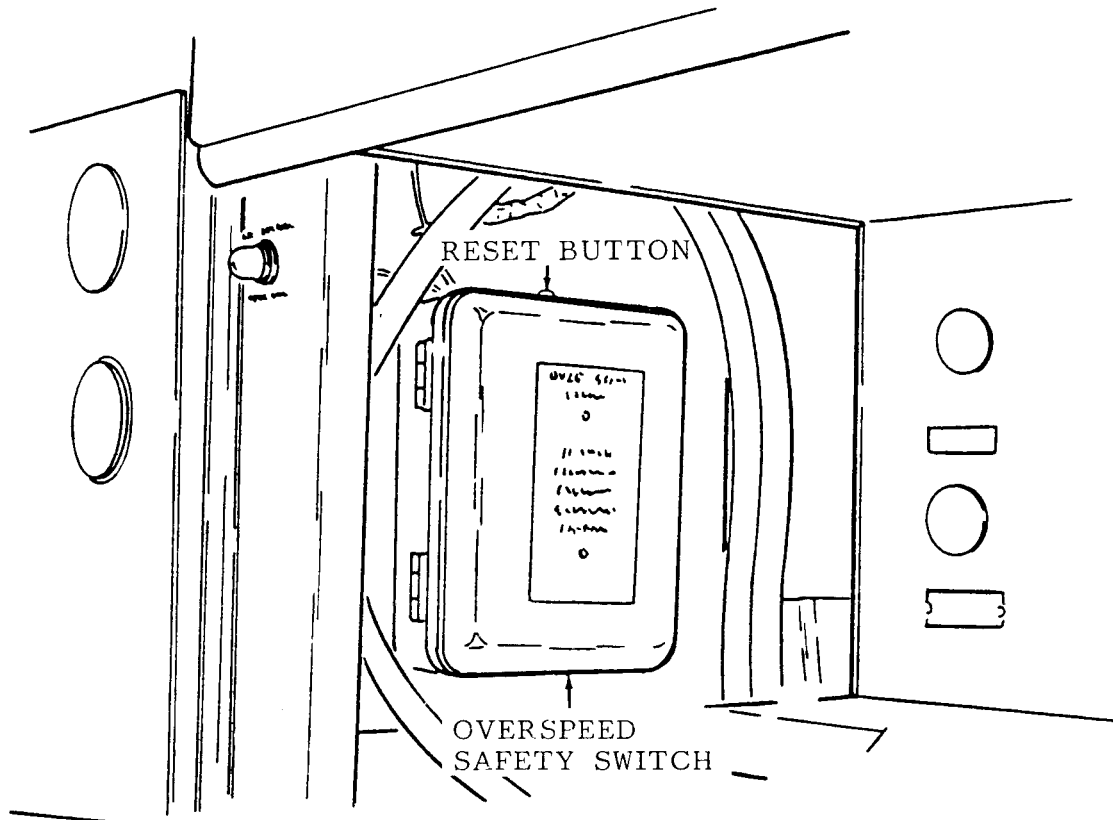

Figure 2-5. Overspeed Safety Switch.
- ak. (Overspeed Safety Switch. The overspeed safety switch (fig. 2-5) will shut the engine down at approximately 2,000 rpm or 66 hertz.
With the selector switch in the (CITY) position, connect outside source of 3-phase, 240-volt A. C. power to power receptacle. 240-volt single-phase power can now be used from R4, R5, and R6 receptacles. Also, the air compressor, lathe, drill press, and mill may be operated. Place the control circuit breaker (fig. 2-5) in the ON position and press the dynamotor-welder start switch momentarily. The generator portion of the dynamotor-welder is now functioning as a 25 H. P. motor to drive the welder portion.